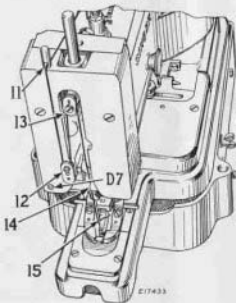

Fig. 10. Threading at Face Plate
To increase thread tension, turn thumb nut (J6, Fig. 11) downward, or upward for less tension. Face plate thread retainer (14, Fig. 10) is adjustable. Loosen screw (D7, Fig. 10) and move retainer (14) to left for more tension, or to right for less tension, then tighten screw (D7). Automatic tension (K6, Fig. 11) requires no change in adjustment other than to make sure that the thumb nut (K6) is turned down sufficiently to insure that the thread is held tightly.